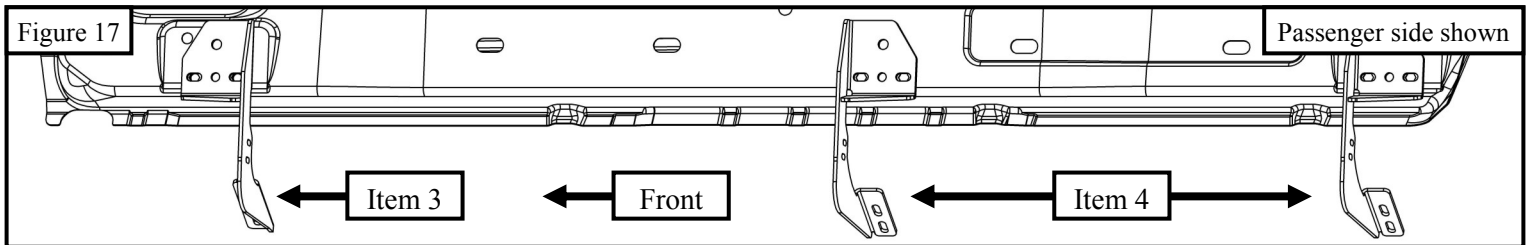

Figure 17
12. Attach mounting bracket A (Item 3) to passenger front and mounting bracket B (Item 4) to passenger center and rear using the same procedure as **Step 8**. Refer to **Figure 17** for bracket positioning.